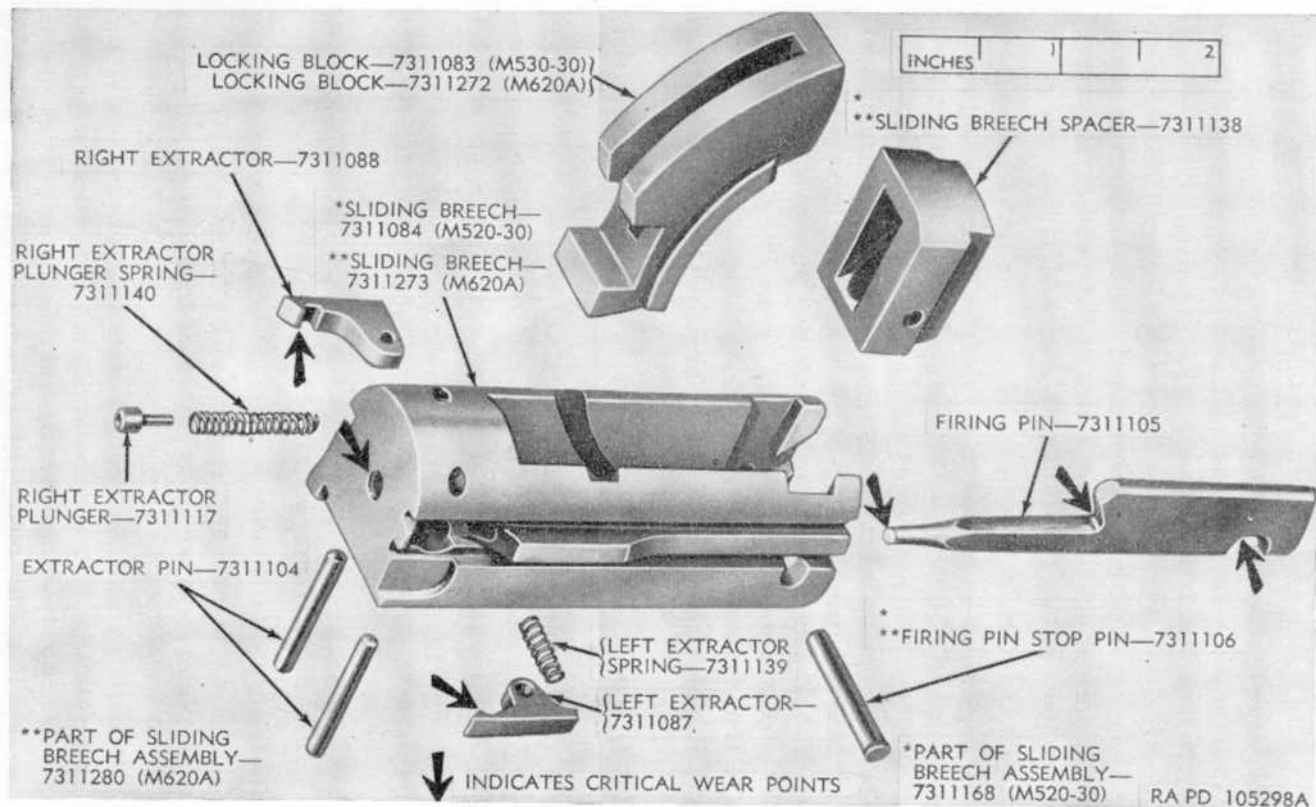

Figure 42. Sliding breech group for both Stevens shotguns—exploded view.
- (2) With drift pin, drive firing pin stop pin from right to left out of the sliding breech (fig. 42). The firing pin can then be re-
moved from rear of breech and the spacer and locking block can be removed from the top of the breech (fig. 42).
- (3) Drive out the two extractor pins from top to bottom of the sliding breech and remove left and right extractors, left extractor spring, right extractor plunger spring, and the right extractor plunger (fig. 42).
- (2) Insert left extractor spring in hole on the upper left side of breech (fig. 42); compress spring with left extractor until extractor pin can be inserted from the bottom of the breech. Insert right extractor plunger spring and plunger in hole in front of breech (fig. 42); compress spring and plunger with a small screwdriver until plunger head is below hole face. Hold-
ing plunger in this position, insert right extractor in its groove in breech and install extractor pin from the bottom through hole in both the breech and the right extractor (fig. 42).
- (3) Slide locking block in the radial grooves in breech and insert sliding breech spacer in its mating grooves in breech (fig. 42). Insert firing pin from the rear through spacer, block, and breech and install firing pin stop pin from left to right of breech (fig. 42). Make certain all four pins assembled do not project to interfere with operation.